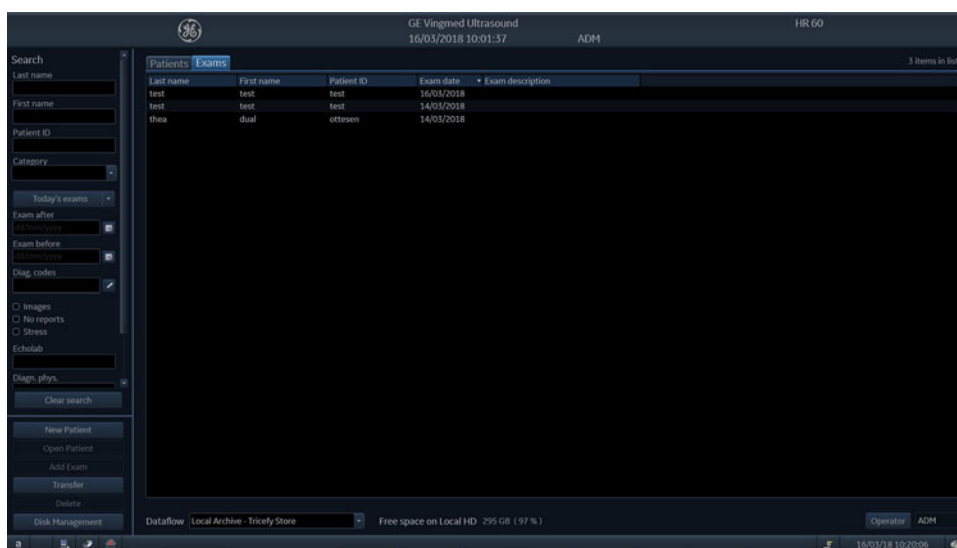

Figure 10-51. The Patients/Exams list
5. In the *Patients/Exams* list, select dataflow **Local Archive - Tricefy Storage** (see Figure 10-51).